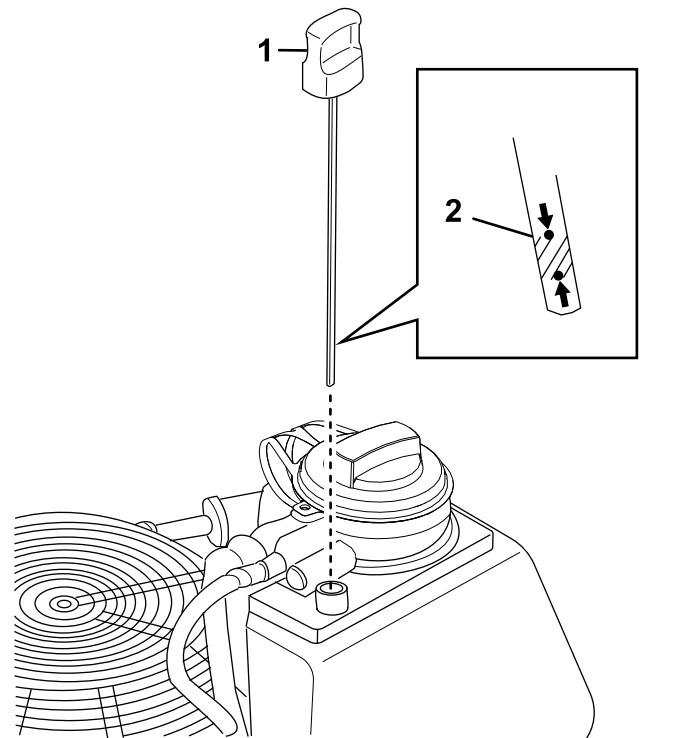

Figure 37
4. Remove the dipstick and wipe it clean (Figure 37).
The oil should be at the full-level indicator on the dipstick (Figure 37).